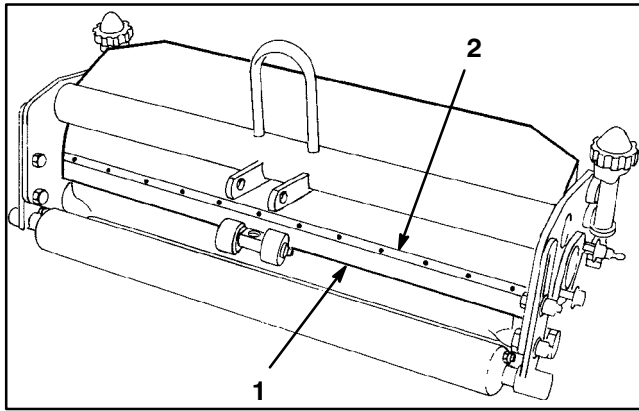

Figure 13
6. To reinstall, slide bedbar into position between sideplates making sure each end of bedbar is under shield (Fig. 13).